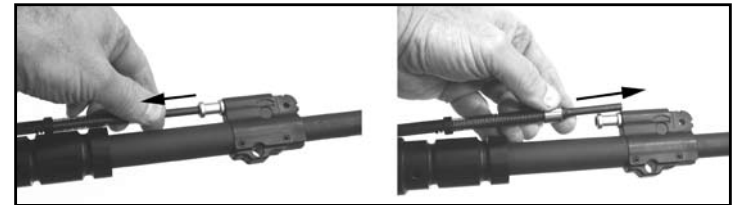

Fig. 46 – Removing Piston Rod
c. Grasp the rear of the gas piston while pushing back on the piston rod. Disengage the piston rod from the piston and slide out the piston rod from the upper receiver (Fig. 46).